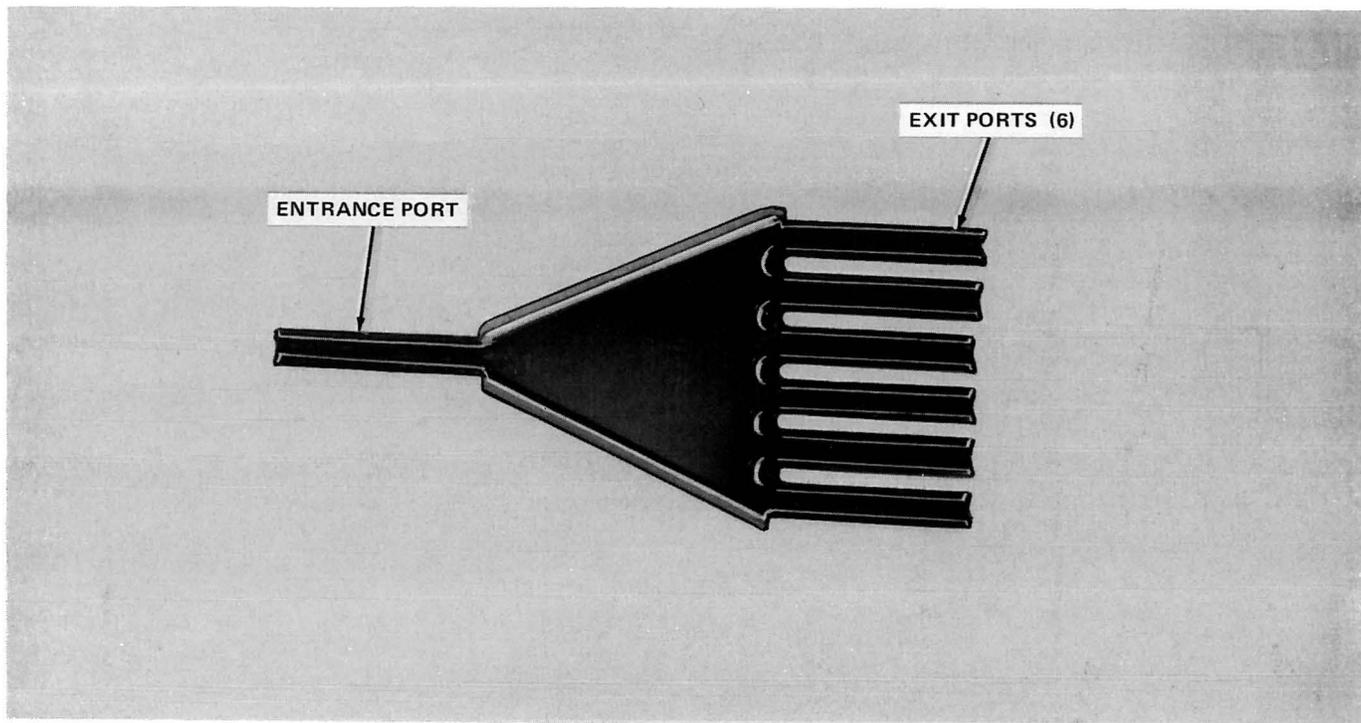

Fig. 53—Unit Splitter
8.01 The unit splitter (Fig. 53) is designed to allow fibers in a ribbon unit or stranded unit to be routed to more than one storage leaf.